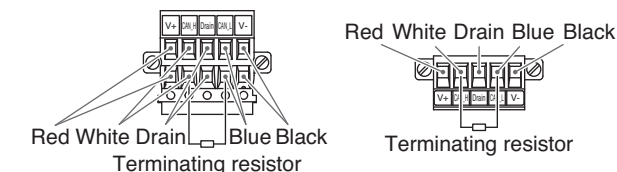

Figure 2
- (2) A bus termination is required at both ends of the DeviceNet™ bus segment as shown in Figure 2.